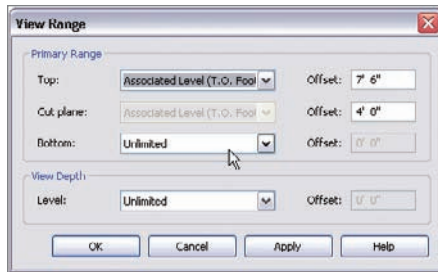

FIGURE 8.55 Again with the View Range!
4. Set View Depth Level to Unlimited, as shown in Figure 8.55.